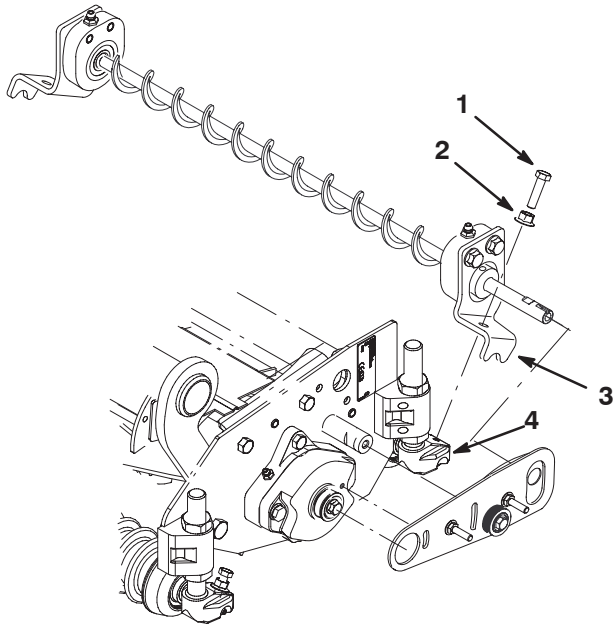

Figure 10
16. Thread a 5/16" flange nut onto (2) 5/16-18 x 1" lg. bolts as shown in figure 10.
17. Position roller brush assembly onto support rods, aligning mounting holes and inserting key way end of roller brush shaft through opening in guard plate and pivot plate (Fig. 10).
18. First, secure roller by threading the (2) 5/16–18 x 1" lg. bolts thru roller brush brackets and into support rods. Do not tighten flange nuts at this time. Insure roller is centered between support rods (Fig. 10).
19. Second, tighten flange nuts locking roller brush brackets to support rods. Insure brackets are parallel with side plates (Fig. 10).